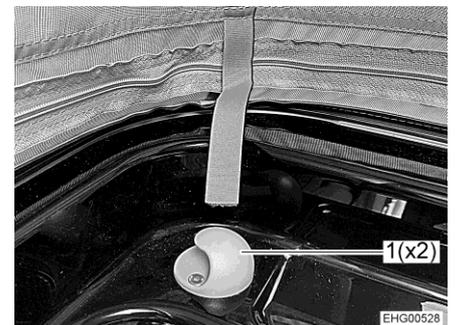

Fig. 37 Holder
- Attach the safety net to the two holders (Fig. 37,1).